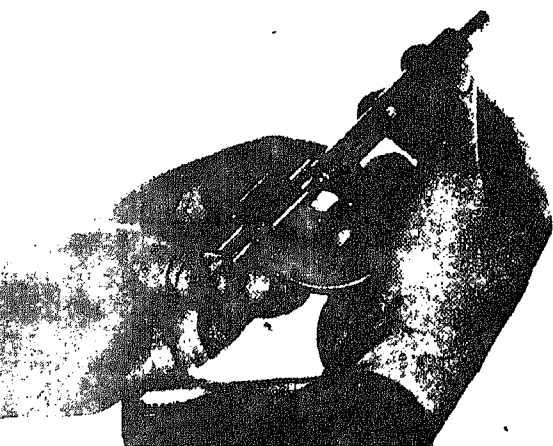

Fig. 504-3 Checking gear width
2. Check gear width. See Table 504-1. If gears are scored or worn badly, the gears must be replaced. Fig. 504-3.